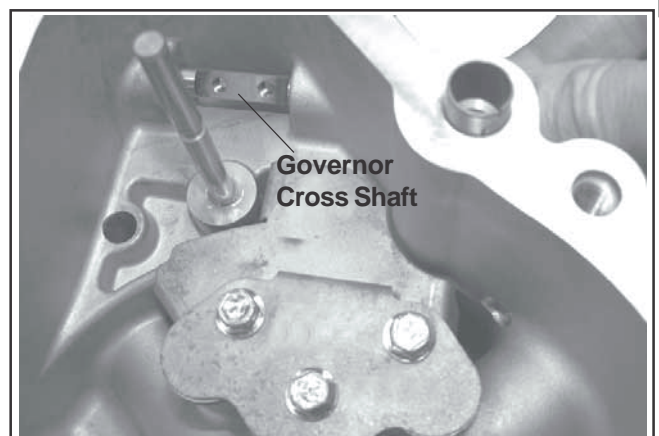

Figure 10-11. Installing Governor Cross Shaft.
3. Lubricate the governor cross shaft bearing surfaces in the crankcase with engine oil. Insert the end with the flat for the governor gear yoke into the crankcase first and position so the flat is up. See Figure 10-11.